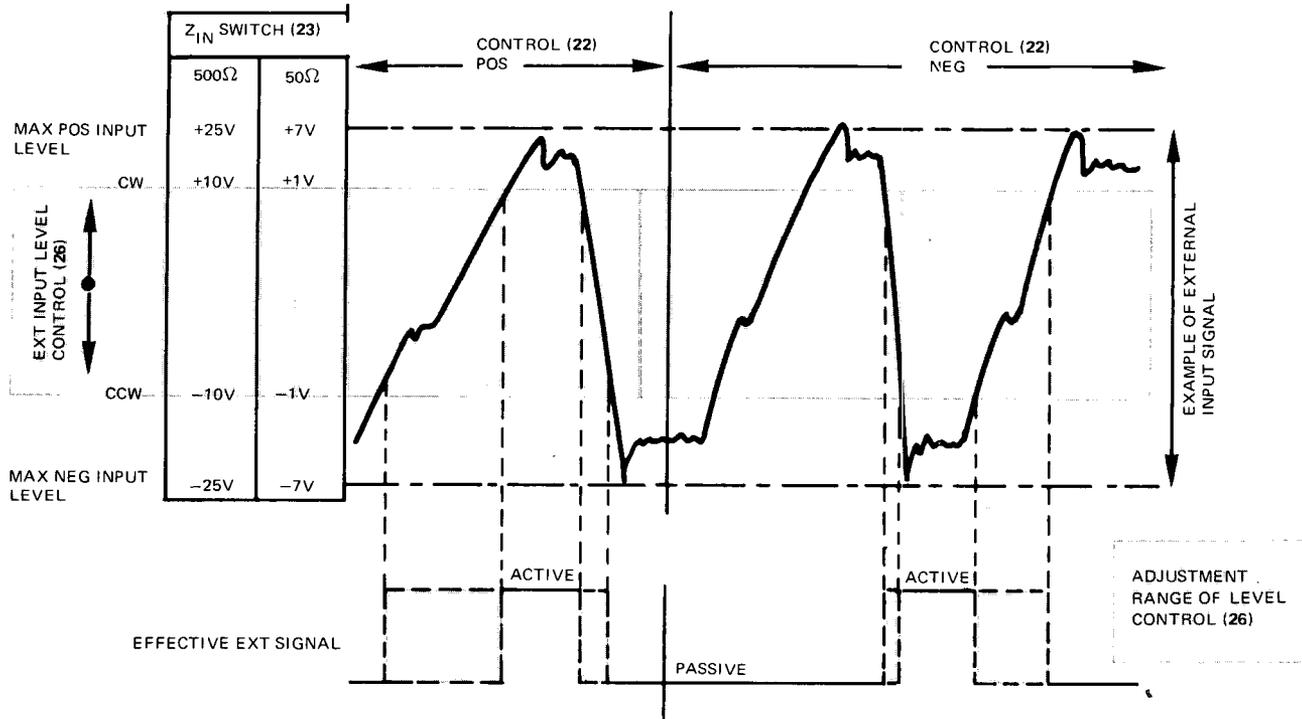

Figure 3-3. External Input Signal Processing
3-8 Operation in all external modes is initiated by a signal applied to connector (21). The trigger point on the input signal is selected by controls (22), (23) and (26) which, as shown in Figure 3-3, can be adjusted so that the trigger point is immune to baseline noise and pulse top ringing.